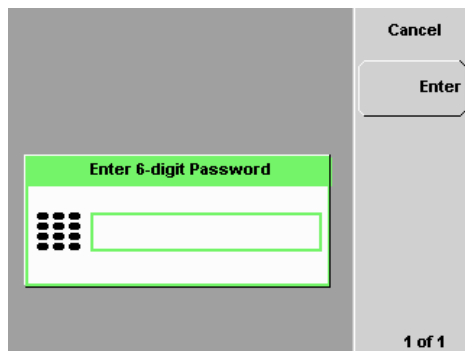

Figure 3-53 Enter password to restore display
- 9 After screen is blanked, pressing of any keys on the front panel will prompt you to enter password to restore the display (see Figure 3-53). You are allowed up to three attempts of password entry.